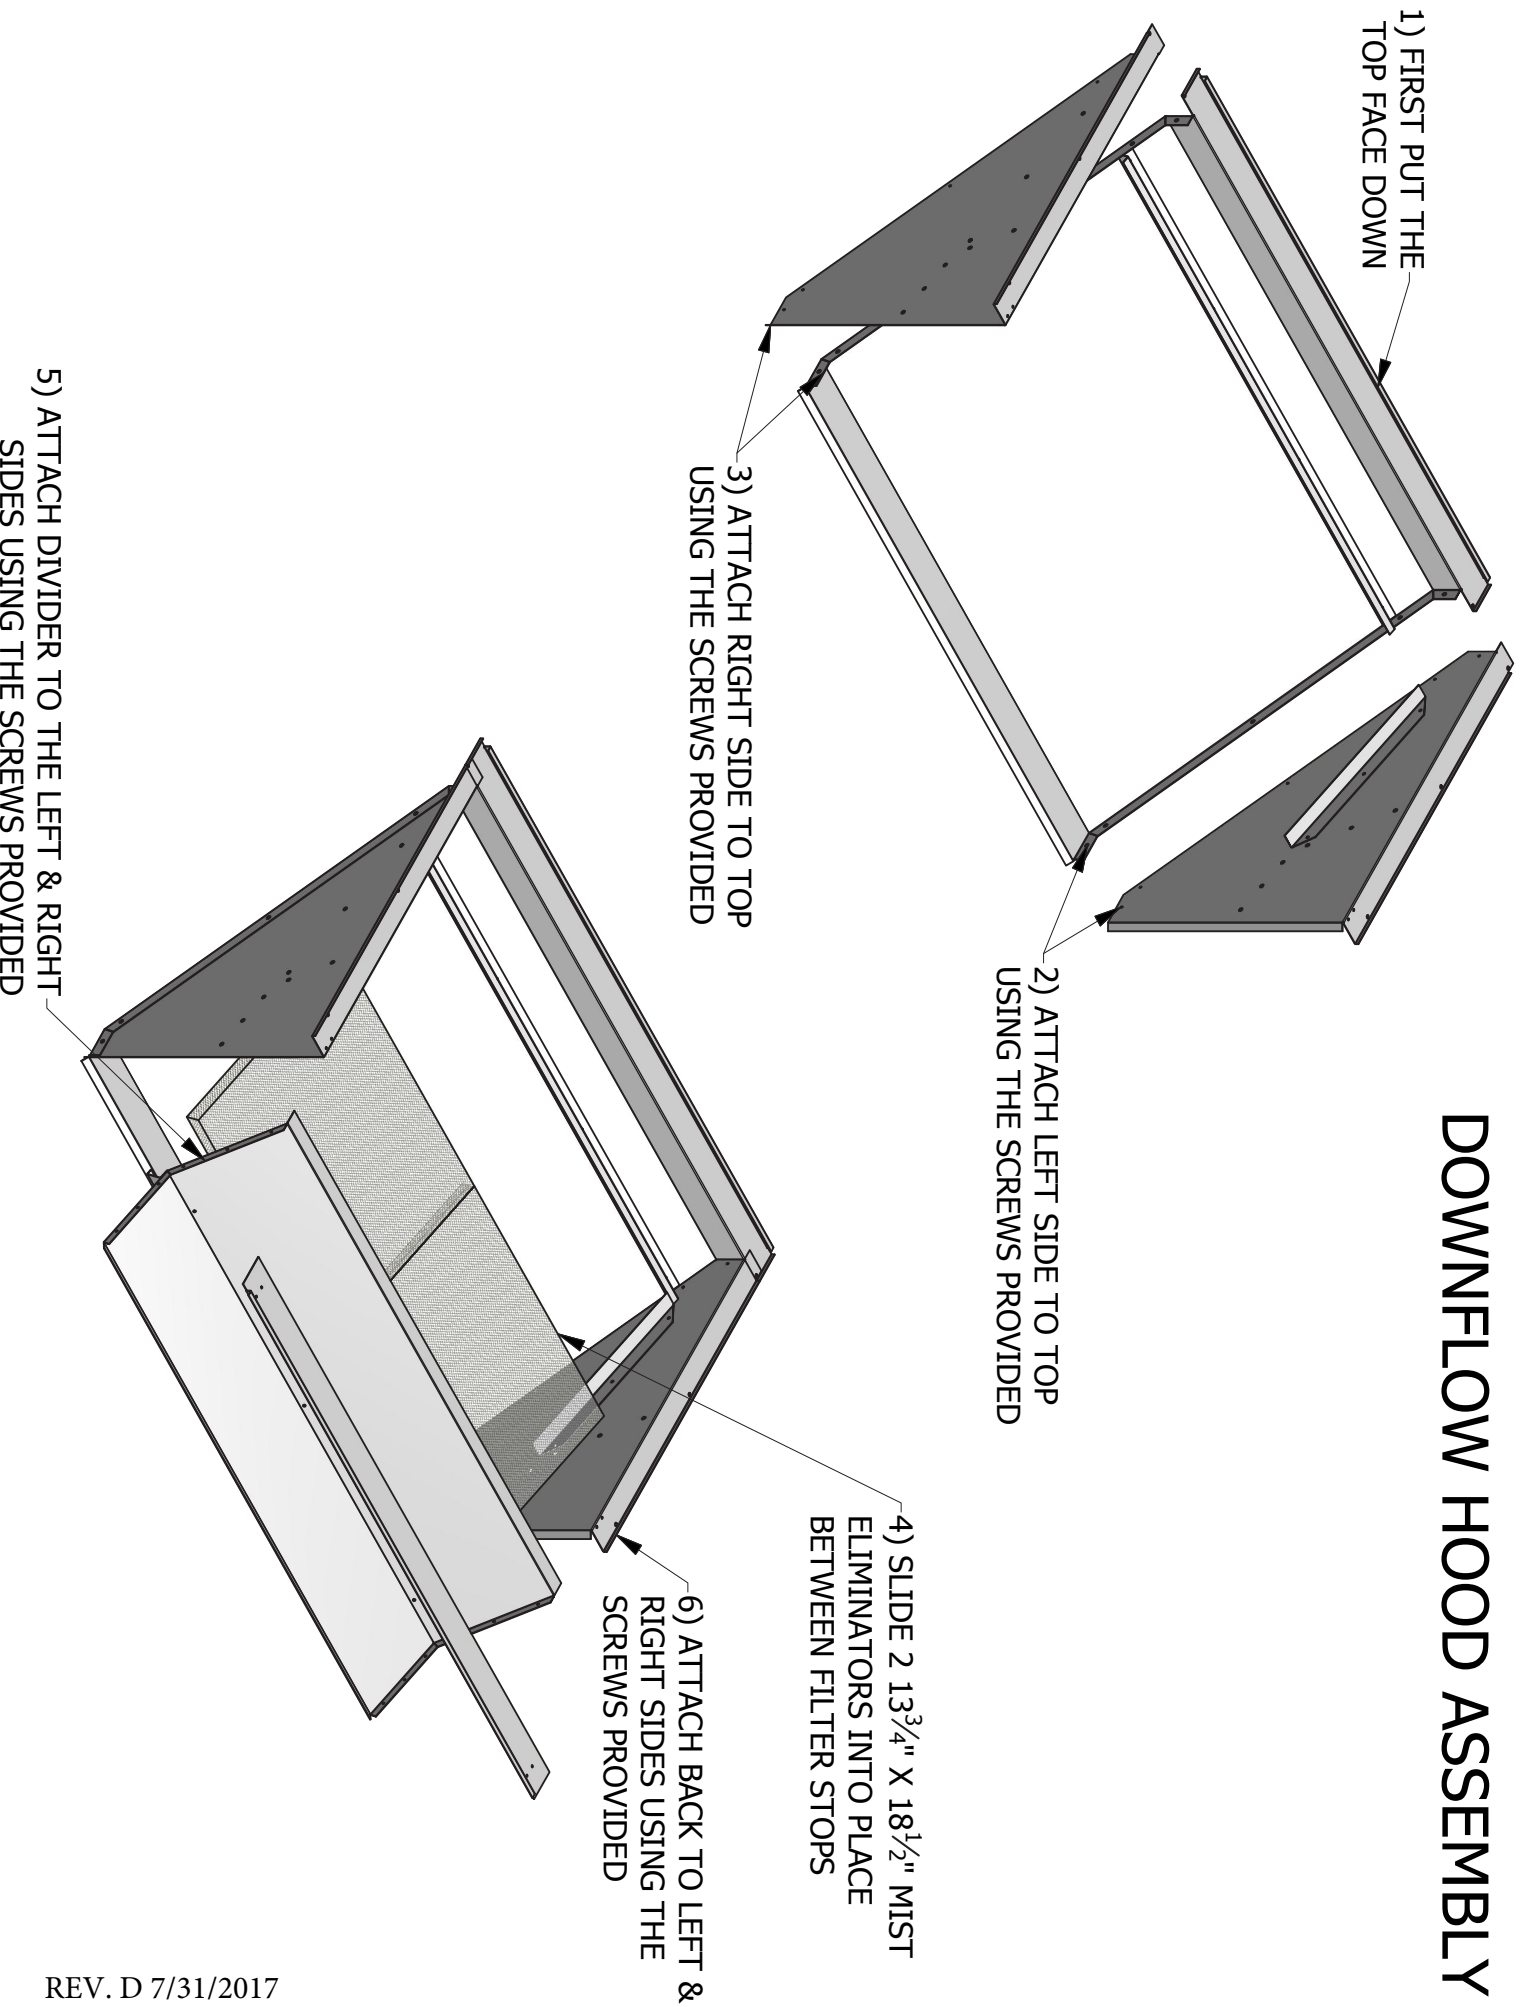

Figure 3
6. Remove the blower access panel from the unit and mount the mixed air sensor to the blower housing. (Figure 3)